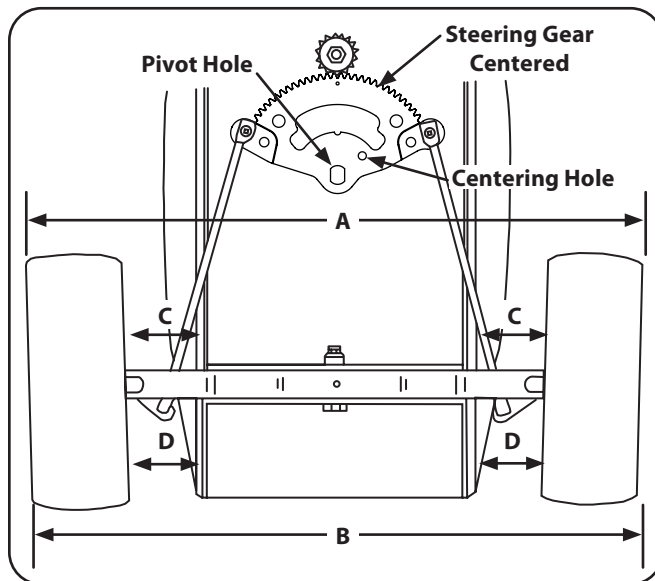

Figure 6-9
The front wheels should toe-in approximately $\frac{1}{8}$ to $\frac{1}{4}$ ", as measured across dimensions A and B. See Figure 6-9.
1. Check the steering gear to ensure it is in the centered position. The hole in the steering segment gear will align with the hole in the steering housing (see Figure 6-9).
3. Measure the distance between the bottom edges of the tractor frame channels and the marks on the front of each wheel (see measurement D in Figure 6-9). These two measurements should be equal.
4. Measure the distance between the frame and the marks on the rear of each front wheel (see measurement C in Figure 6-9). Measurement D should be approximately $\frac{1}{16}$ - to $\frac{1}{8}$ -inch less than measurement C on each side of the tractor.